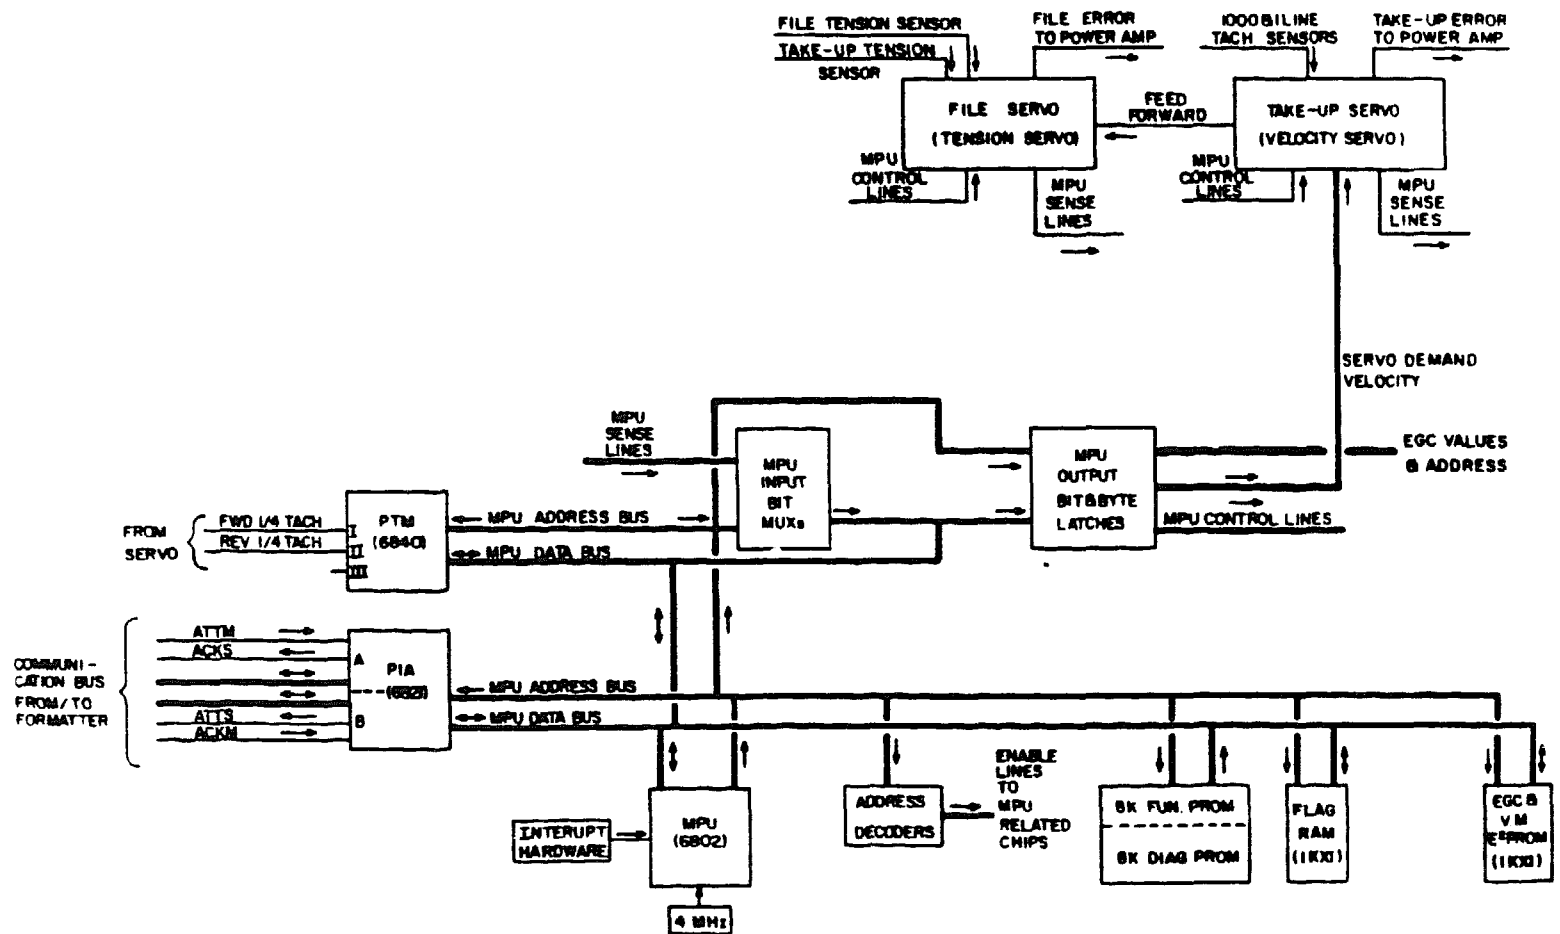

Figure 4-12. SERVO/CONTROL BLOCK DIAGRAM
4.5.2 Microprocessor (Figure 4-12)